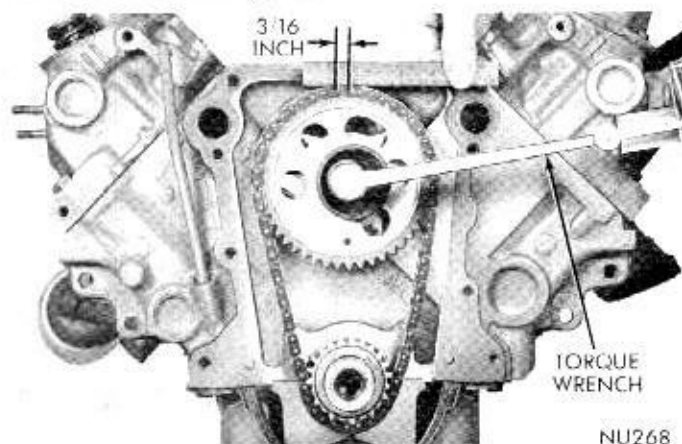

Fig. 19—Measuring Timing Chain Stretch
(3) Holding a scale with dimensional reading even with edge of a chain link, apply torque in the reverse direction 30 foot-pounds (with cylinder heads installed) or 15 foot-pounds (cylinder heads removed) and note amount of chain movement (Fig. 19).
(4) Install a new timing chain, if its movement exceeds $3/16$ inch.
(5) If chain is satisfactory, slide the crankshaft oil slinger over shaft and up against sprocket (flange away from sprocket).
(6) If chain is not satisfactory, remove camshaft sprocket attaching cup washer, fuel pump eccentric and remove timing chain with crankshaft and camshaft sprockets.